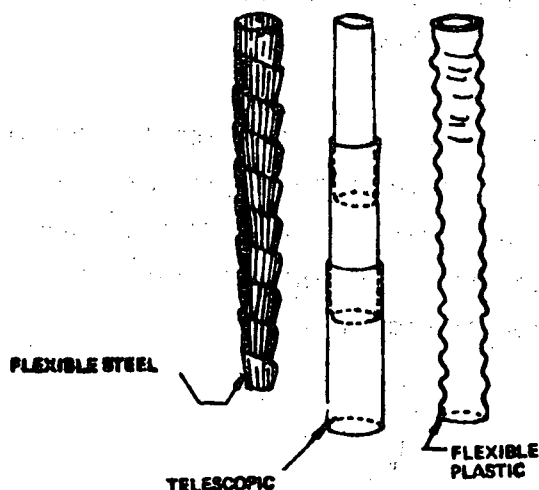

Fig. 6
**COULTER TUBES.** These carry the seed from the feeding devices to the coulters. They may be flexible, of rubber, plastic or steel sheet spiral. They may also be of rigid material and of telescopic structure (Fig. 6).